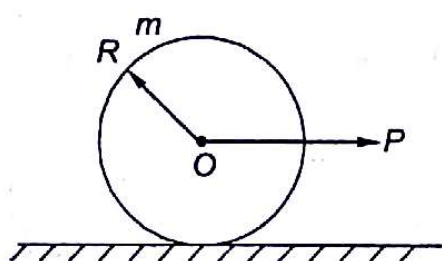

Fig. 17.17
17.4 A sphere of mass m and radius R is pulled along a rough horizontal plane by a horizontal force P applied at the end of a bar attached to centre of sphere as shown in Fig. 17.17. What is acceleration of mass centre?